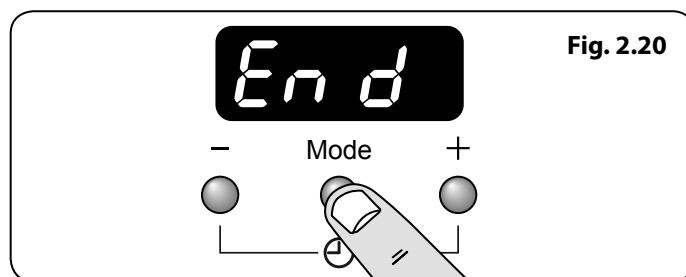

Fig. 2.20
1. Press the mode [Mode] button, until the display flashes 'end' (**Fig. 2.20**).